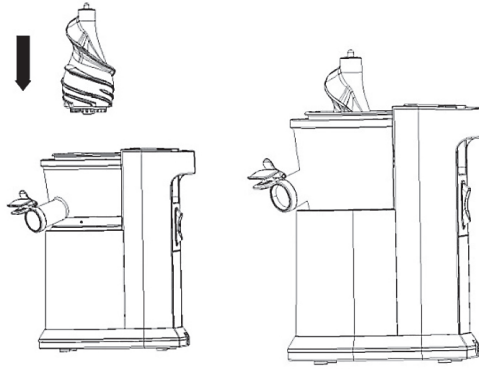

Fig. 3
3. Place the Auger in the center of the bowl. (Figure 3)